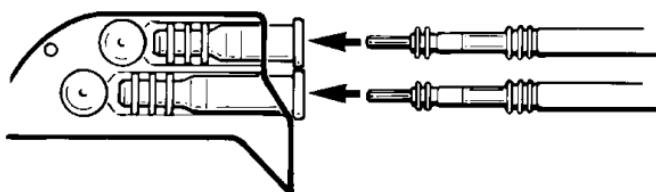

Figure 2. Insert the lead(s) male connector into the pulse generator.
3. Gently insert the male connector end of the lead(s) into the pulse generator connectors (see Figure 2). If necessary, use sterile water as an insertion lubricant.